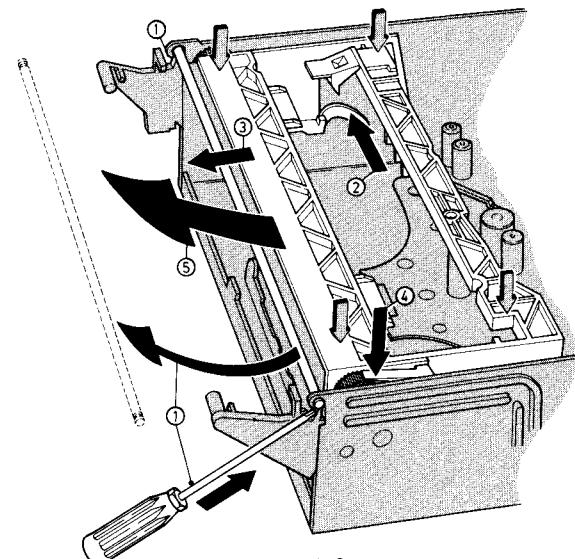

Fig. 1-2
**Note:** If the spring tension pos. 202 is lost, prestress the gear 20 complete revolutions and lock it ④ Fig. 1-2.